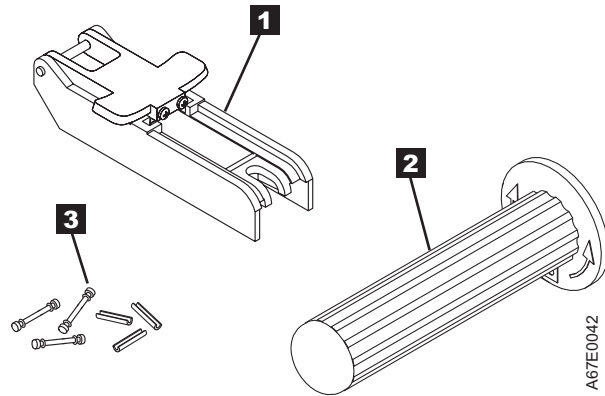

Figure 21. Leader pin reattachment kit
- **Leader pin attach tool** (See **1** in Figure 21 on page 57). A plastic brace that holds the cartridge door open.
- **Cartridge manual rewind tool** (See **2** in Figure 21 on page 57). A device that fits into the cartridge's hub and enables you to wind the tape into and out of the cartridge.
- **Pin supplies** (See **3** in Figure 21 on page 57). Leader pins and C-clips.